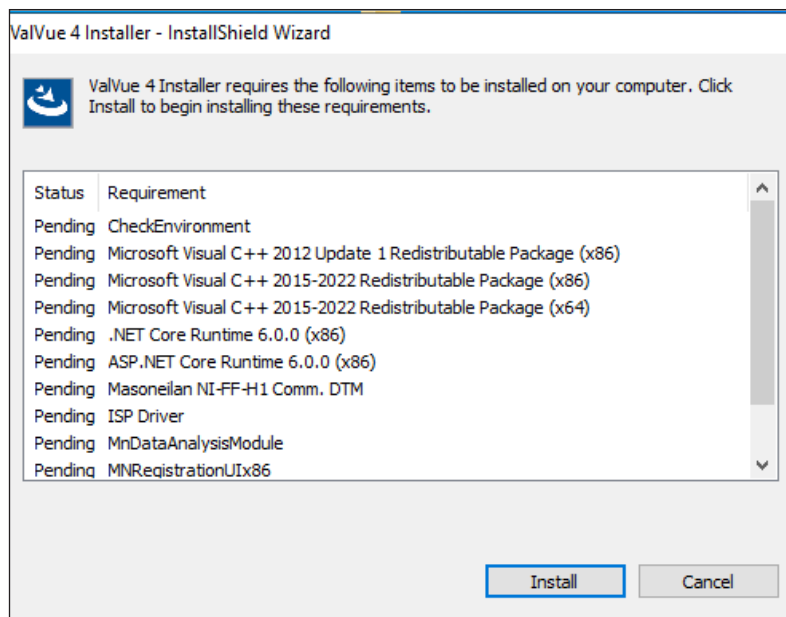

Figure 3 - Install Items
2. Click **Install** and the extraction process begins. Click to allow installation on any intermediate messages that appear. The *Preparing Setup* dialog appears. If you have not previously installed ValVue then Figure 3 appears.